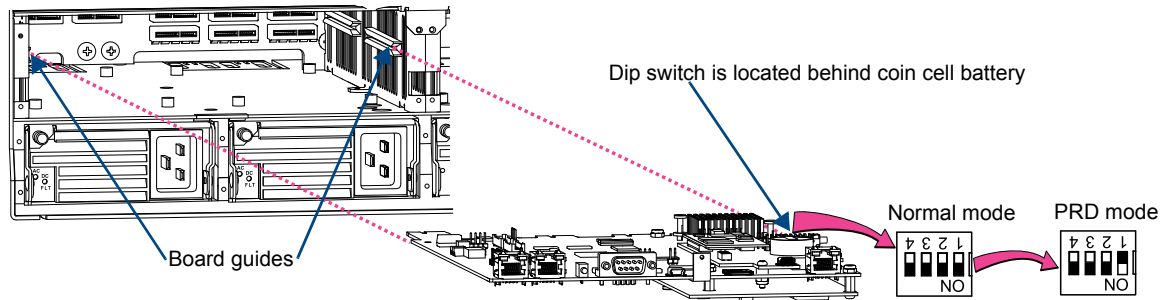

FIG. 135 Set Position #1 DIP switch to ON
7. Slowly slide the CPU board back into the empty slot, being careful to align the edges in the board guides along the insides (FIG. 135).